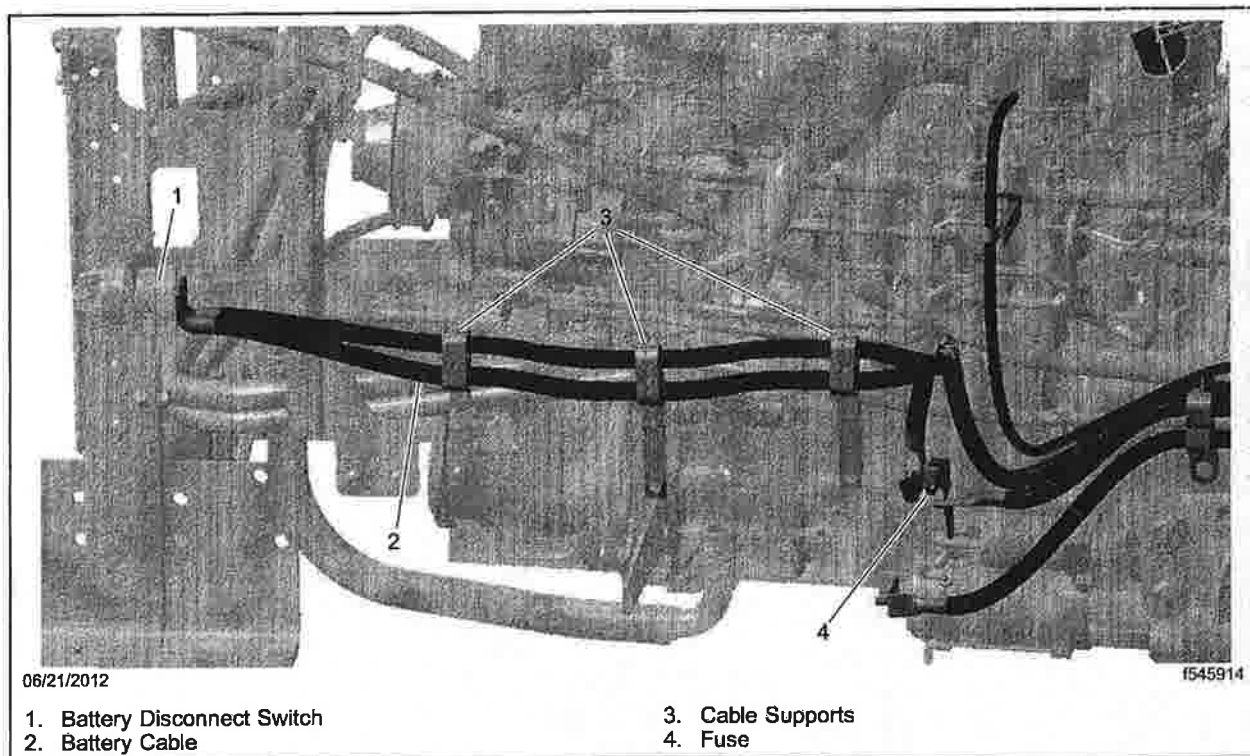

Fig. 2, Fuse Mounted on the Power Stud
9. Using as many of the previous cable supports as possible, route the battery cable to the battery assuring the cable is not rubbing against the frame rail or any other components. See Fig. 2.